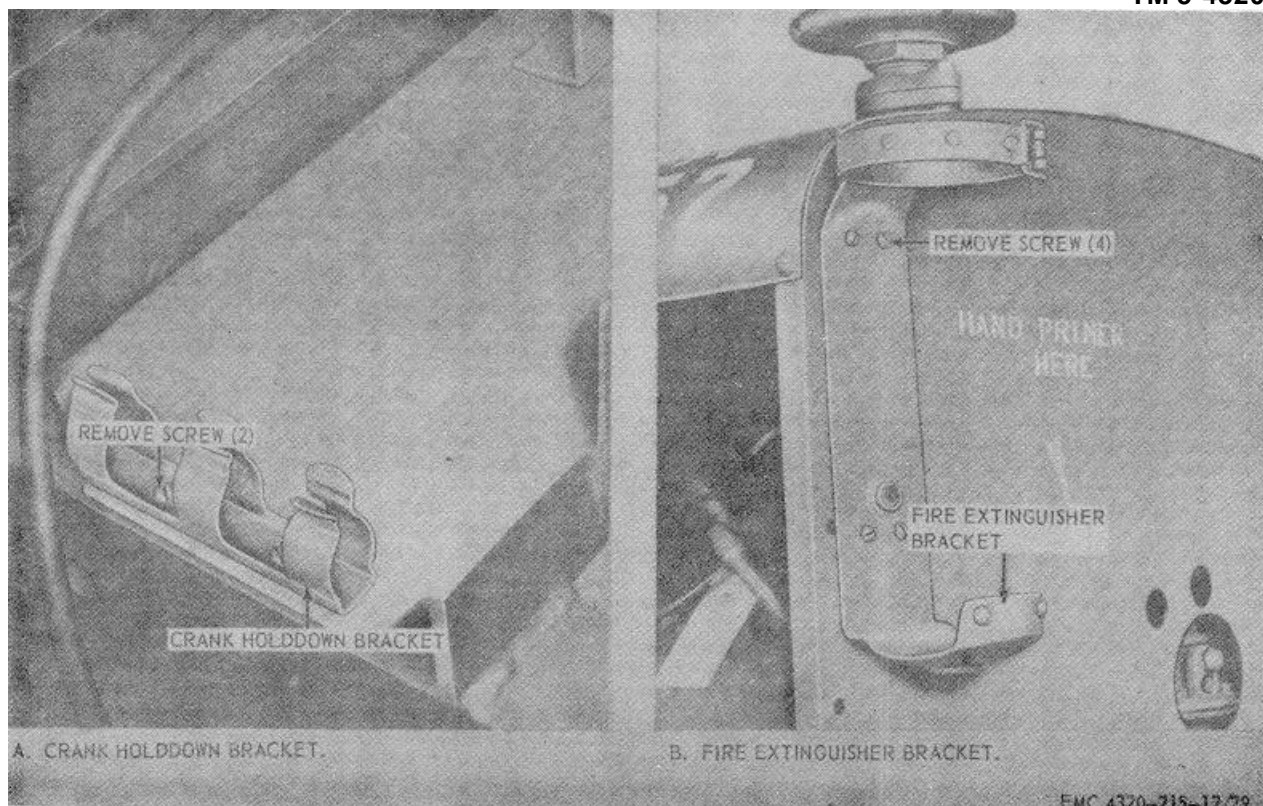

Figure 29. Crank holddown bracket and fire extinguisher bracket, removal and installation.
- a. Remove and install the crank holddown bracket and fire extinguisher bracket as shown by figure 29.